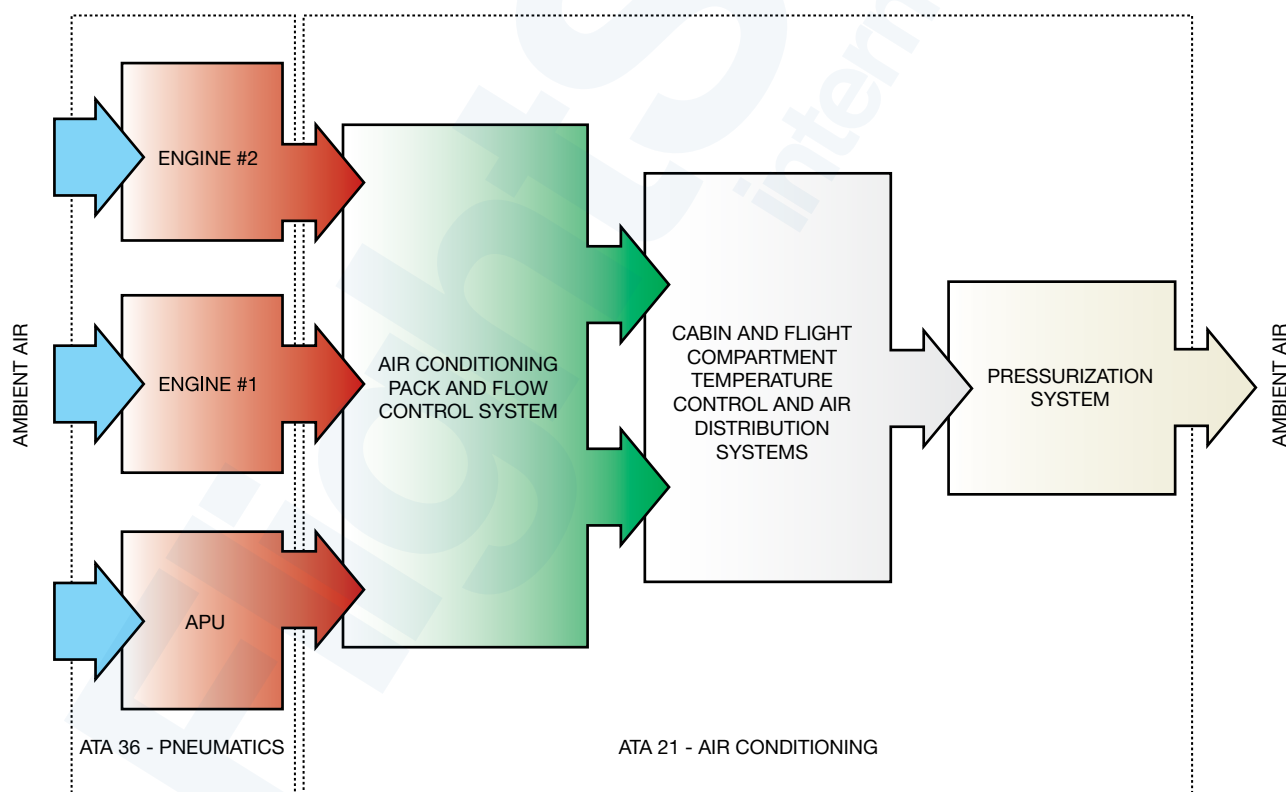

Figure 21-1. ECS Simplified Block Diagram
- Figure 21-1. ECS Simplified Block Diagram.